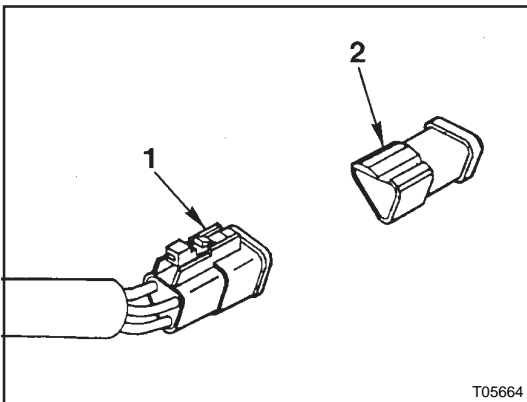

Figure 4: Backbone harness end
Figure 4: Pin numbering of connector P223. Male connector at the LHS, female connector at the RHS. The pin numbers are to be considered from the wire input side.
- a 120 Ohm resistor at each end. The resistors are mounted in a removable cap (see Figure 4). The terminating